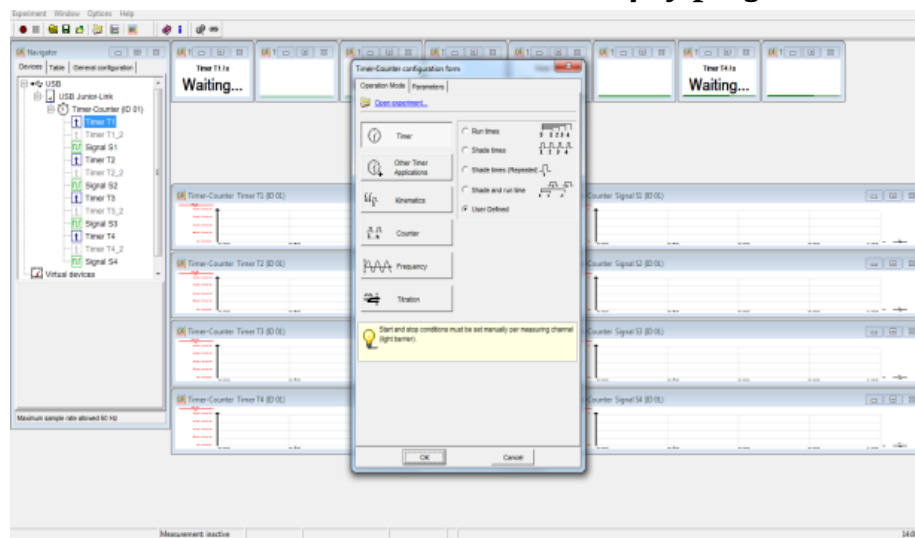

Figure 3.9: Startup window
- 5- Start the Measure software package on the PC. You will see the window shown in Figure 3.9. Click “Cancel”, then go to the “Experiment” menu and select “Load configuration”.